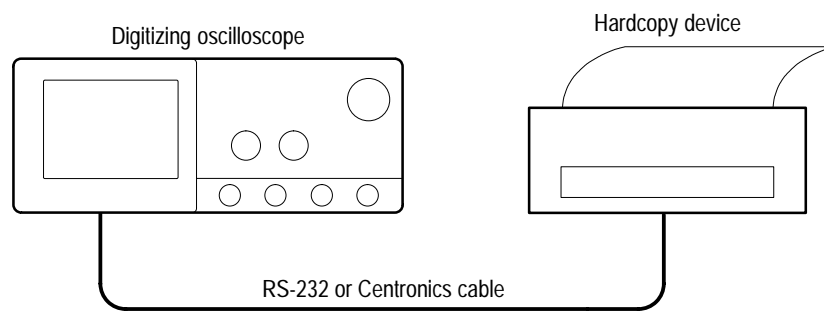

Figure 5: Connecting the digitizing oscilloscope directly to the hardcopy device
2. Connect your hard copy device to the RS-232 or Centronics interface on the rear panel (as shown in Figure 5).